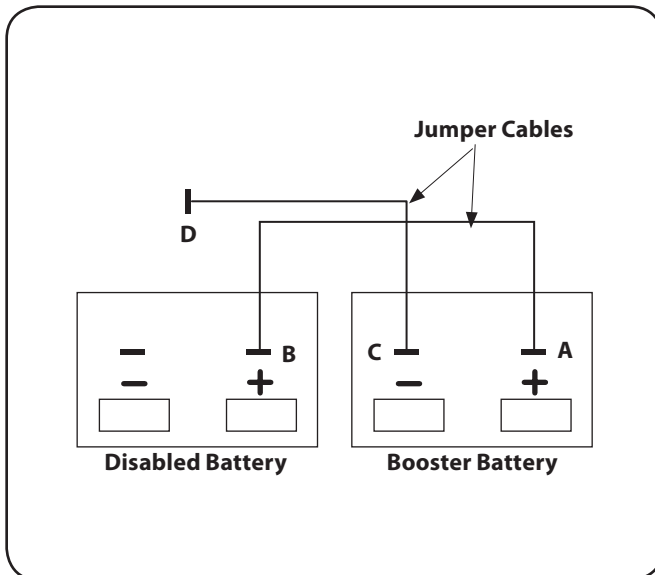

Figure 5-2
1. Connect positive (+) jumper cable to booster battery positive (+) post (A). See Fig. 5-2.